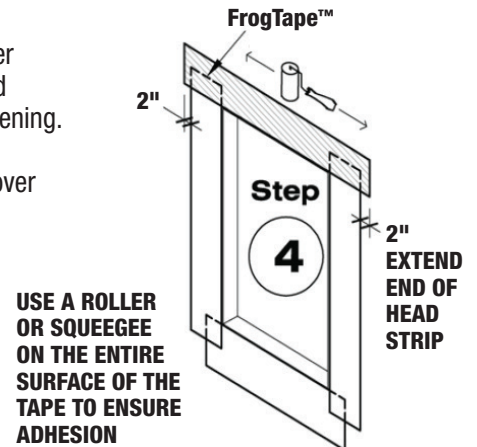

Figure 5 Apply head flashing.
Step 4. Precut FrogTape Pro Grade Flashing Tape for the window header to extend a minimum of 6 in beyond the jambs of the prepared rough opening. Peel off release liner and adhere FrogTape Pro Grade Flashing Tape over head opening and jamb flashings (see Figure 5). Use a roller to apply sufficient pressure along the entire surface of the tape to ensure adhesion and a continuous seal, eliminating any wrinkles, creases or trapped air beneath the tape.